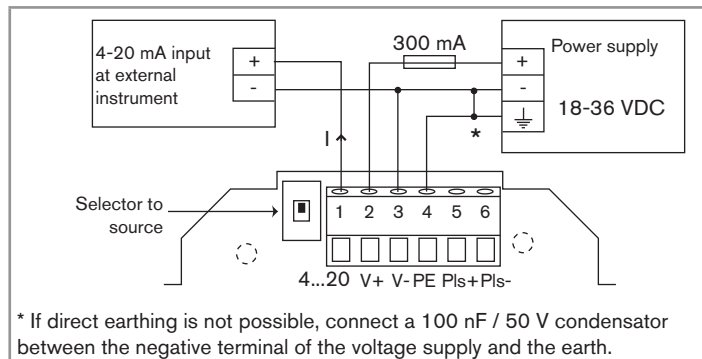
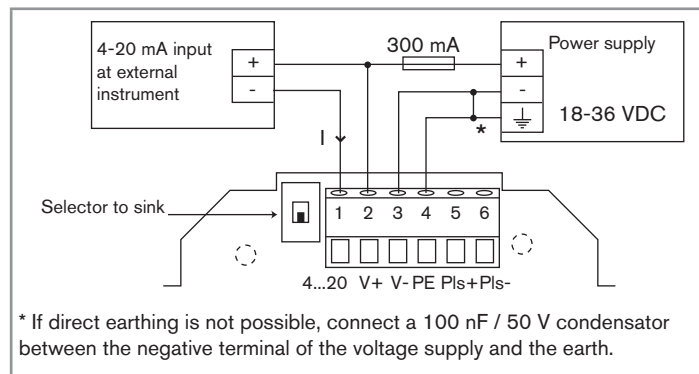

Fig. 18: Connection of the current output in sourcing mode
Fig. 19: Connection of the current output in sinking mode
- Set the selector of the electronic board to the sourcing or the sinking position (see Fig. 18 or Fig. 19).
- Connect the 4-20 mA output in sourcing mode (see Fig. 18) or in sinking mode (see Fig. 19).
- Earth the device (see Fig. 18 or Fig. 19).